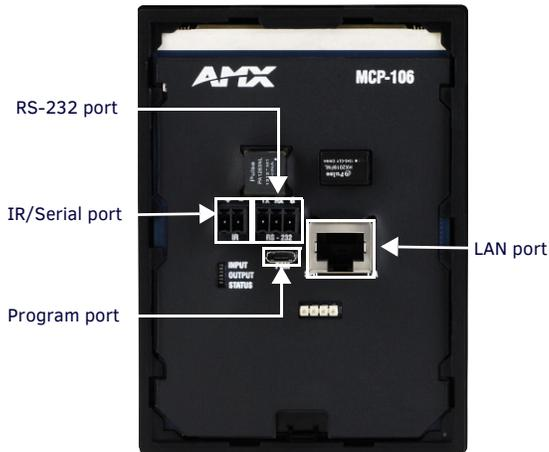

FIG. 5 MCP-106 REAR PANEL
FIG. 5 displays the rear panel of the MCP-106 featuring all available connectors for the ControlPad.
- Using a standard Micro-USB cable, connect the Program Port on the rear panel of the ControlPad (see FIG. 5) to your PC.